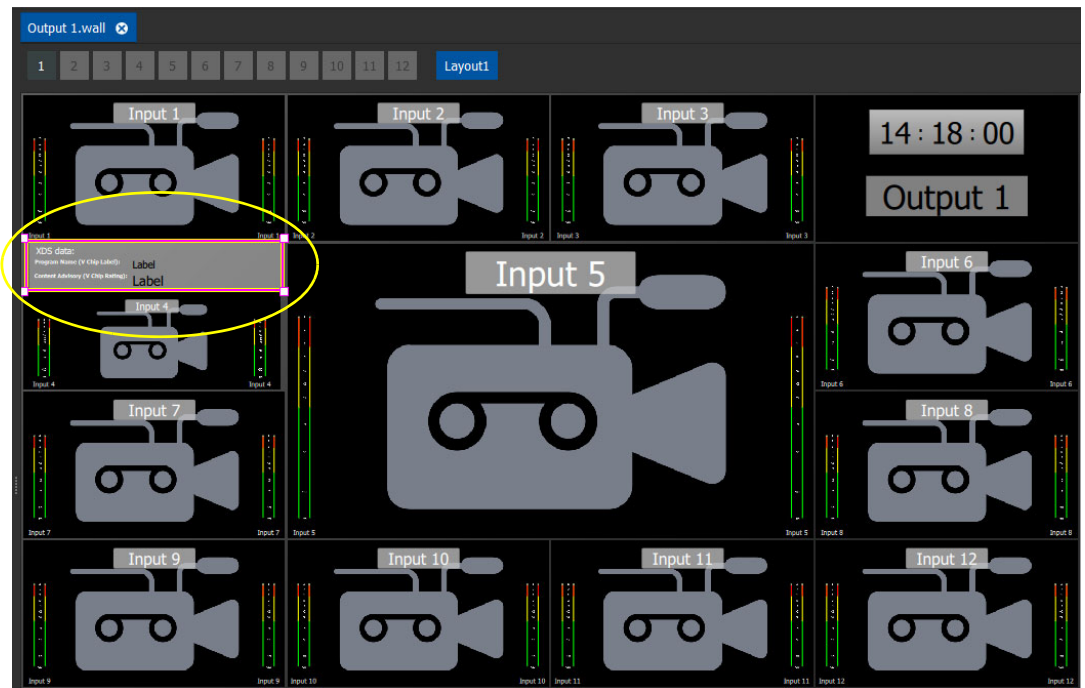

Fig. 6-5: XDS Labels Tile on Wall
- 14 Open a **Wall** and drag on the new tile. See Figure 6-5.